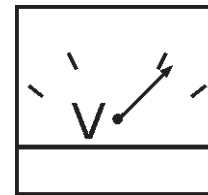

Figure 46. Voltmeter
11. The generator's voltage meter (Figure 46) displays the 120 VAC in **VOLTS**. If the voltage is not within the specified frequency tolerance,